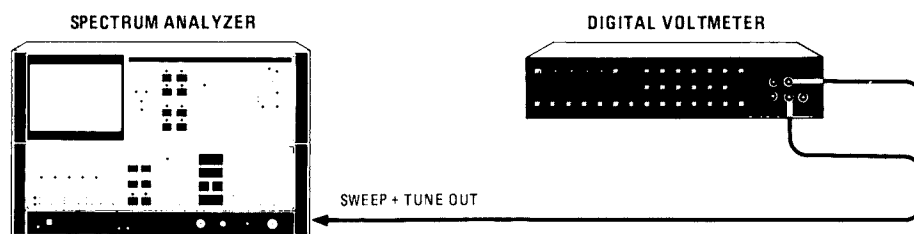

Figure 4-43. SWEEP + TUNE OUT Accuracy Test Setup
2. Connect digital voltmeter to the SWEEP + TUNE OUT auxiliary output on the rear panel of the analyzer as indicated in Figure 4-43.